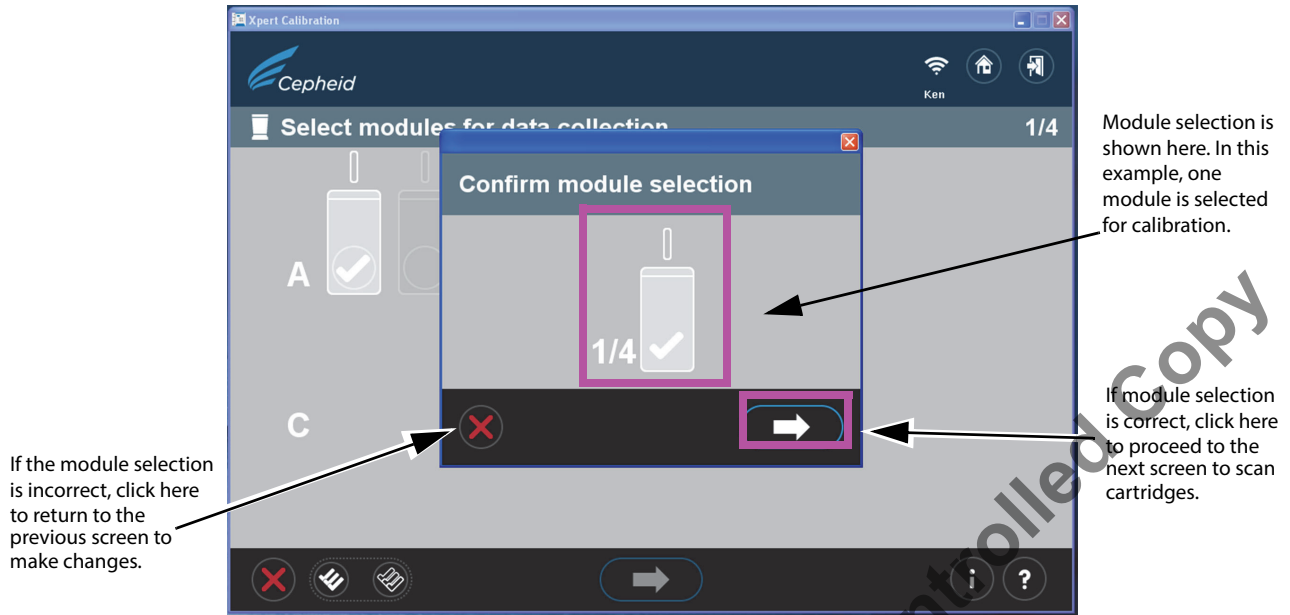

Figure 10. Confirm Module Selection Screen - Administrator Use Only
12. After selecting the modules, click the arrow button at the bottom of the screen. If you are logged on as an Administrator, the Confirm module selection screen appears. See Figure 10. If you are logged on as a Basic User, this screen will not appear (Skip to step 13).